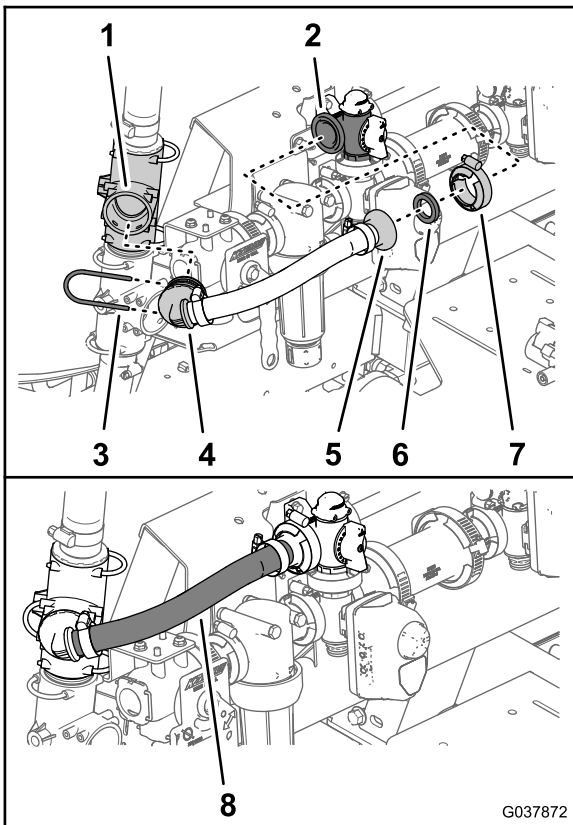

**Figure 68**
1. Rotate the upper T-fitting approximately 35° counterclockwise (Figure 68).